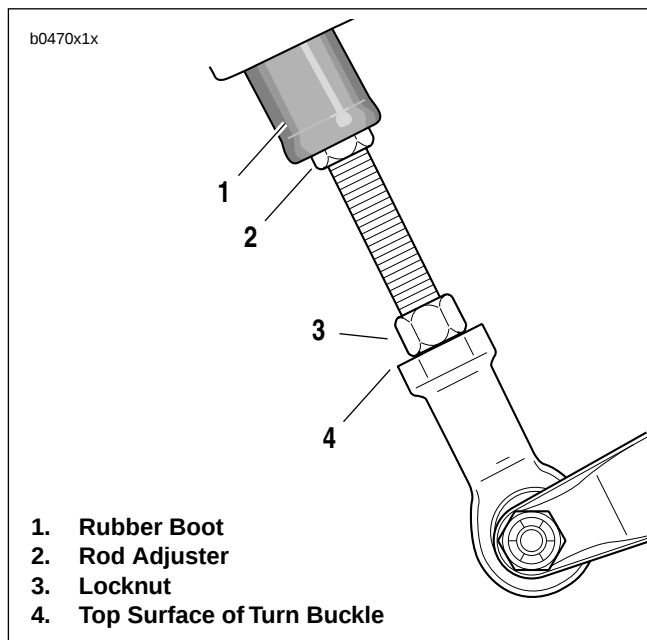
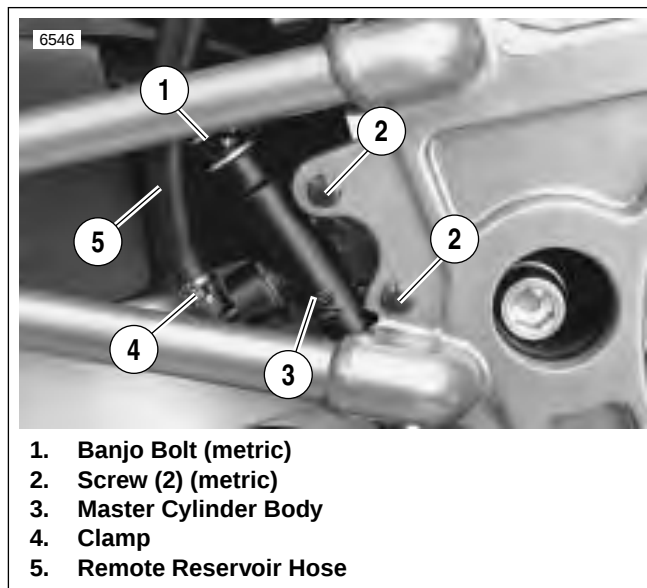

Figure 2-34. Brake Push Rod
Figure 2-35. Master Cylinder Mounting
3. See Figure 2-34. Disconnect push rod from brake pedal turn buckle (4).
- a. Spin locknut (3) away from top surface of turn buckle.
- b. Turn rod adjuster (2) to free rod from turn buckle (4).
4. See Figure 2-35. Remove two screws (2) (metric) to detach master cylinder (3) from frame.
2. See Figure 2-35. Attach master cylinder (3) to frame using two screws (2) (metric). Tighten to 8-10 ft-lbs (11-14 Nm).
4. See Figure 2-34. Install push rod.